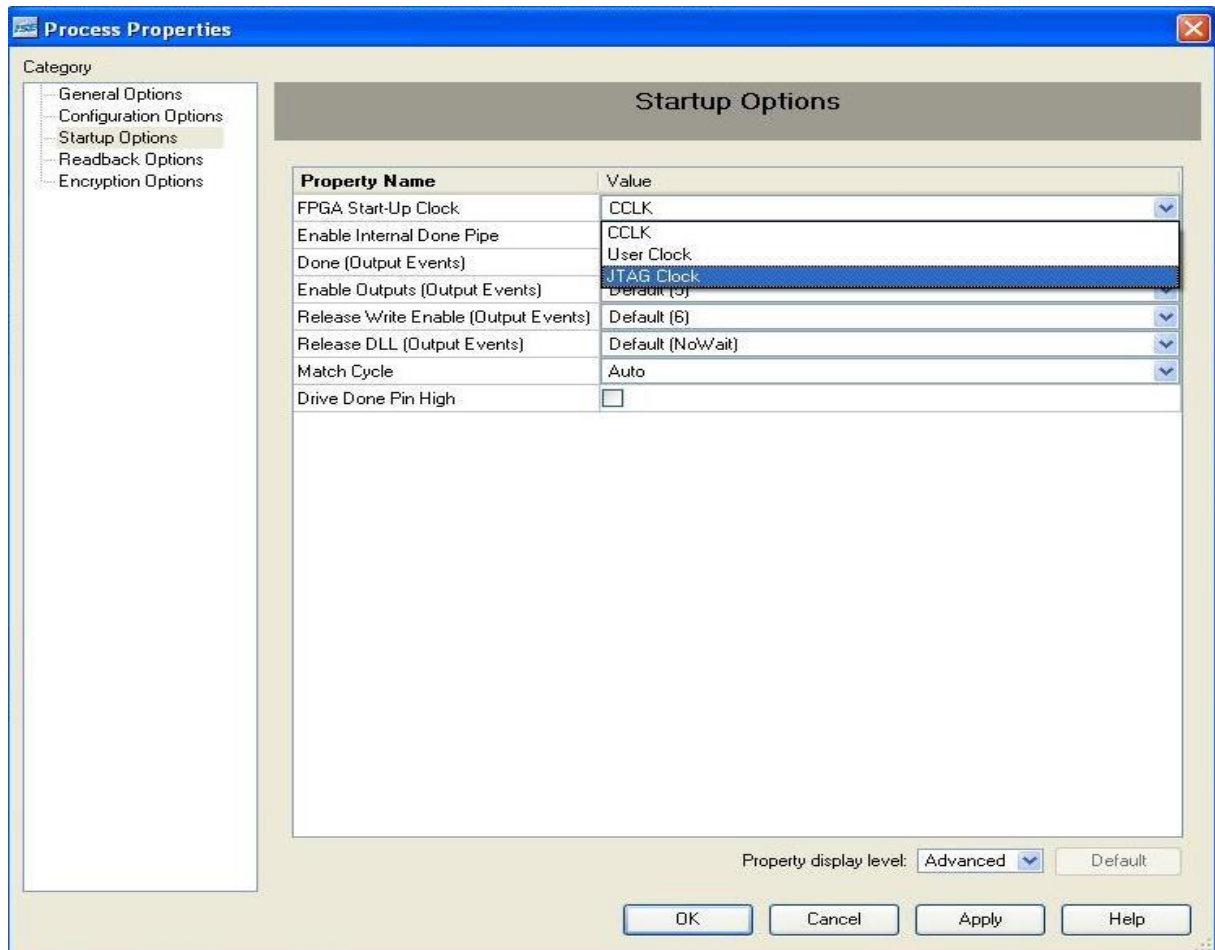

Fig 3.23: Changing Properties of Generating Bit File
2. Select **Startup Options** under category and select **FPGA Start-Up Clock** to **JTAG Clock** as viewed from Fig 3.23 and click on **Apply** and select **OK** to exit the window.